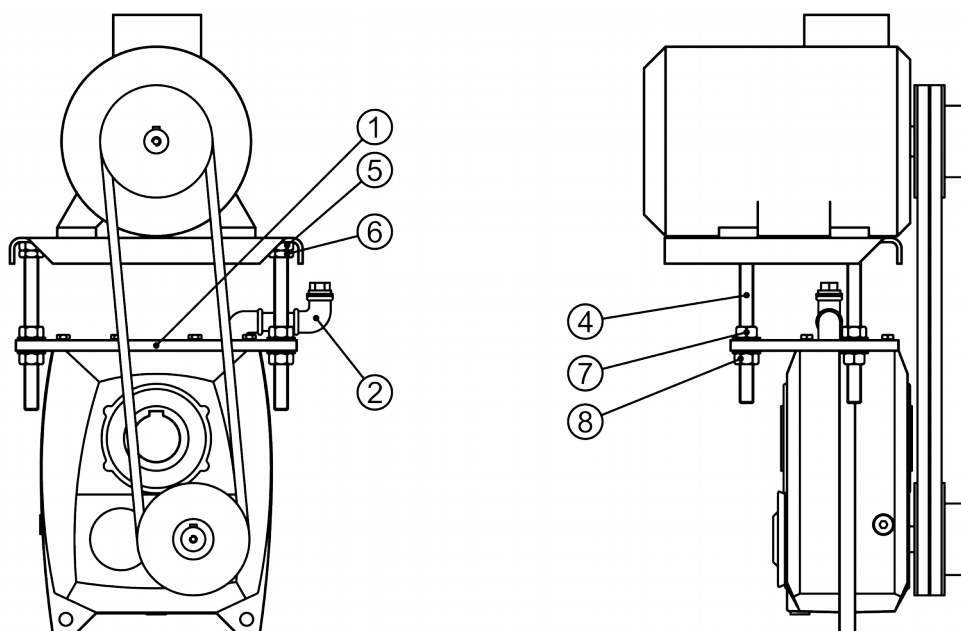

Figure 12: Motor base assembly on units type FC116 to 324
Dismount the upper cover of the housing (Figure 12), and replace it by the support cover (pos. 1). Remove the filling plug and install a standard piping to make the filling plug accessible (pos. 2).